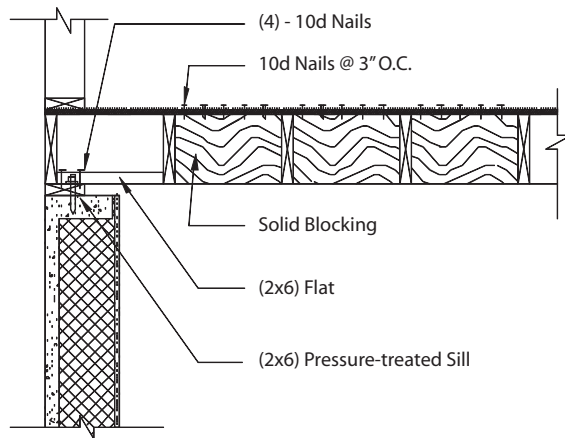

Figure 5
a) Joists Parallel (see figure 5, Pg. 9)